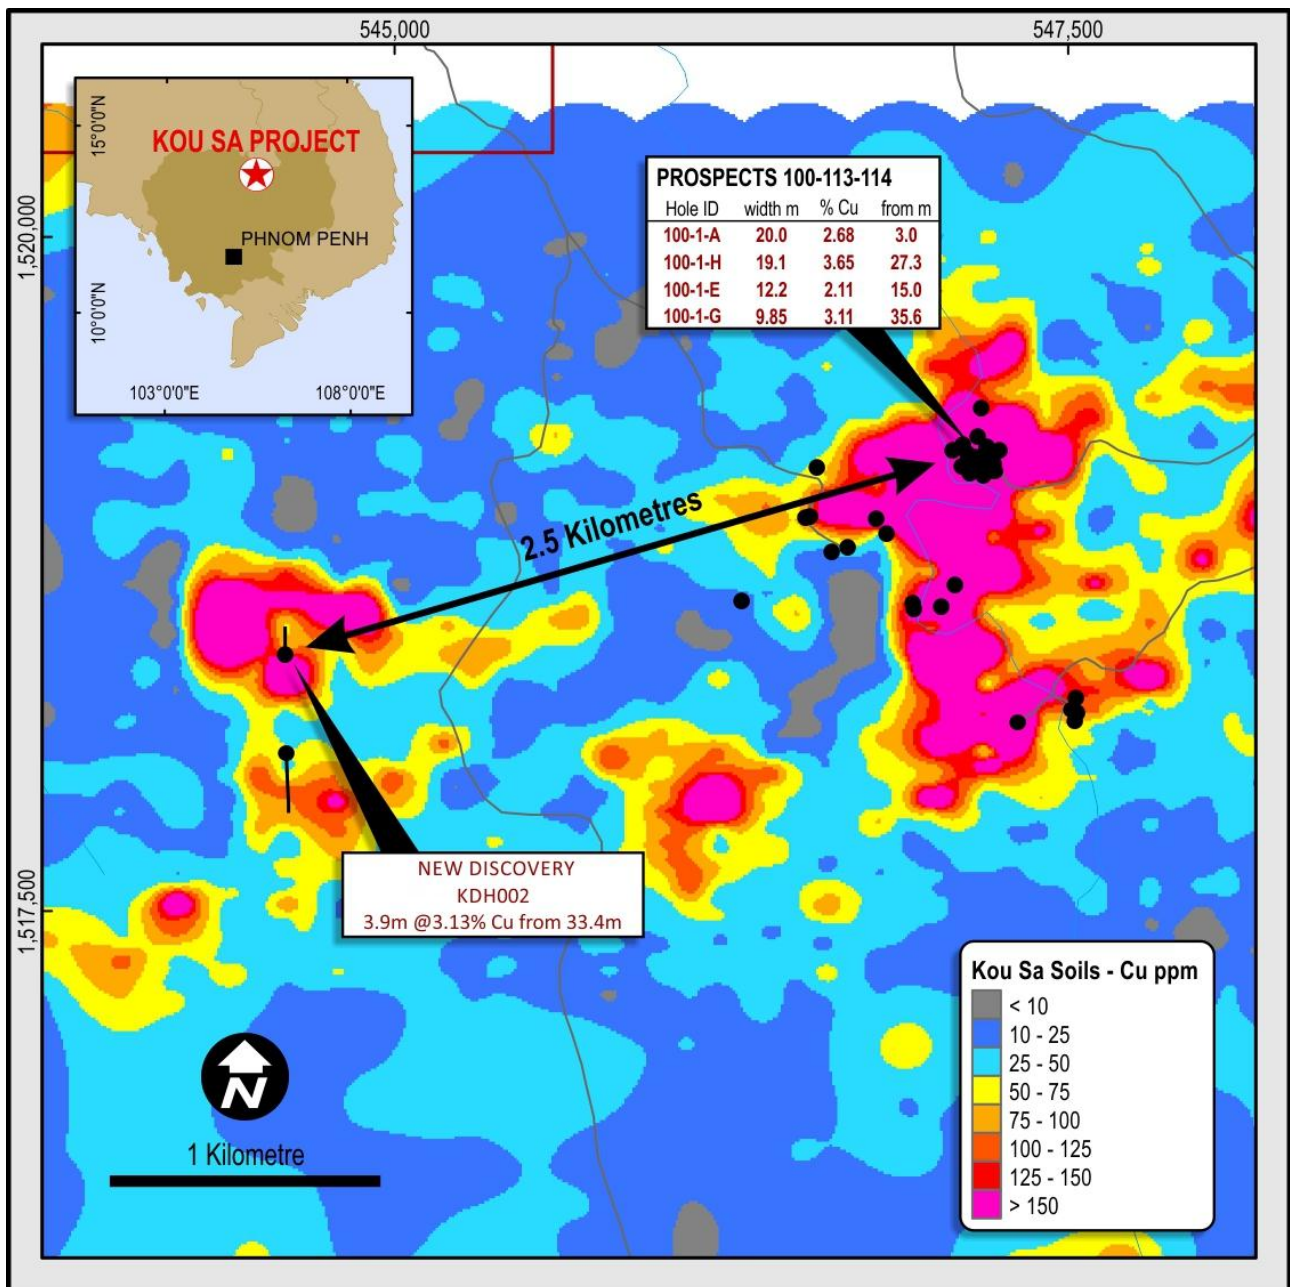
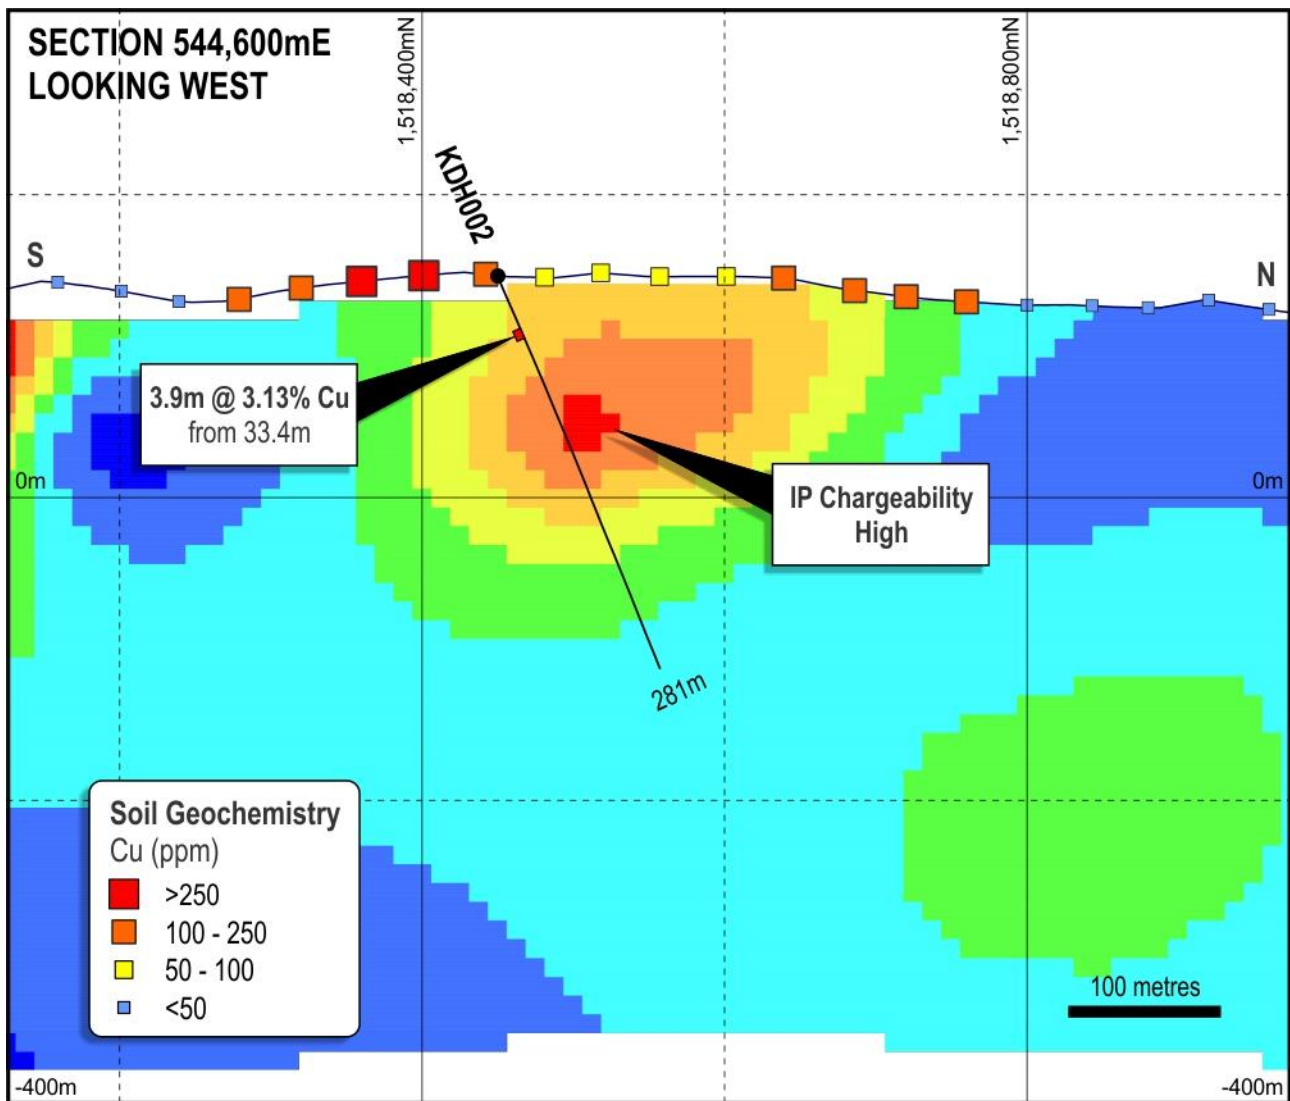

Figure 2: Copper geochemistry map showing location of new Cu-sulphide mineralisation relative to Prospect 100
Figure 3: Cross-section of KDH002 showing IP chargeability section with soil geochemistry
**The associated geochemical anomaly is some 1.2km long and 200m across and covers a low ridge of strongly silica altered volcanic rocks.** (Figure 2) The IP anomaly sits immediately below the geochemistry anomaly and is 200m wide (Figure 3).
The Porphyry Prospect is the first area tested at Kou Sa outside the areas drilled by the Vendors and is 2.5km from the 100 Prospect (Figure 2) that has already produced excellent copper results (see previous releases). These early results highlight the potential to identify other areas of mineralisation from the numerous anomalies on the licence.